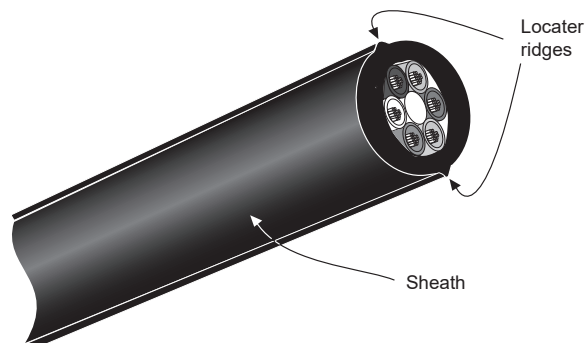

Figure 2
**Step 4:** At the end of the cable, locate the locator ridges which indicate the cable sheath's FastAccess® technology features. These features appear as small longitudinal ridges on the cable sheath and are located 180 degrees from each other (Figure 2).